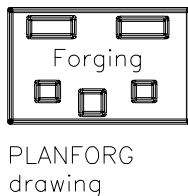
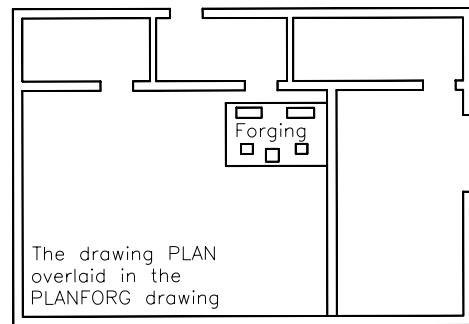

Figure 18-17 The PLANFORG drawing
Figure 18-18 The PLANFORG drawing after overlaying the PLAN drawing
- Open the PLANFORG drawing (Figure 18-17) and select the **Overlay** radio button in the **Attach External References** dialog box, which is displayed after you have selected the PLAN drawing to reference. The PLAN drawing is overlaid on the PLANFORG drawing (Figure 18-18).